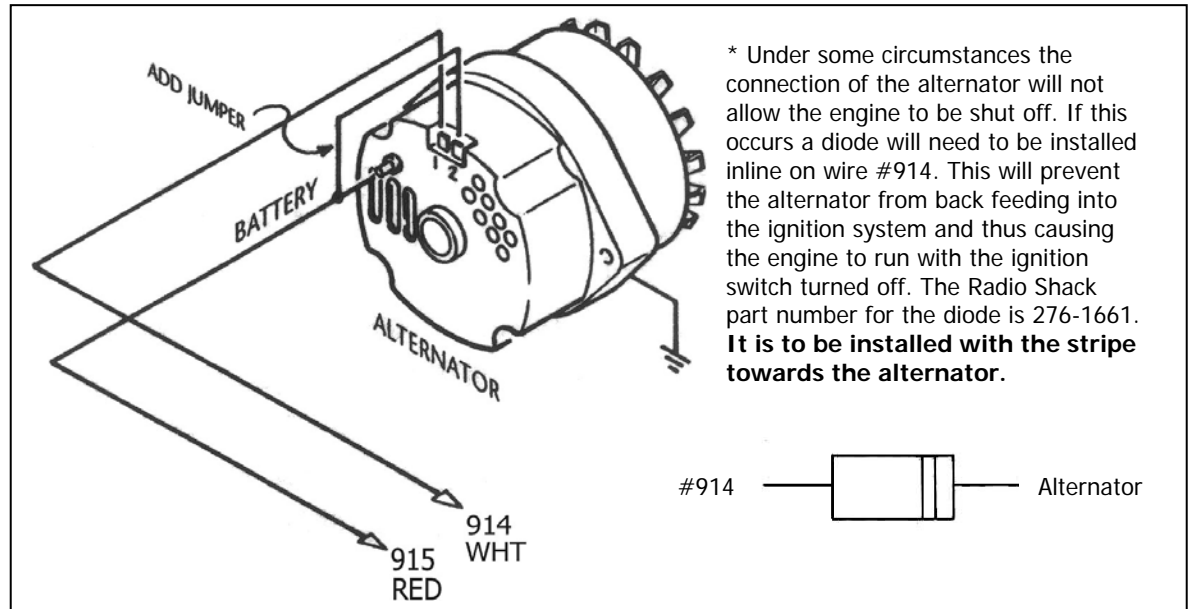

Figure 8-2 GM Alternator - Internal Regulator
8.1 GM Alternator - Early Internal Regulator. See Figure 8-2.